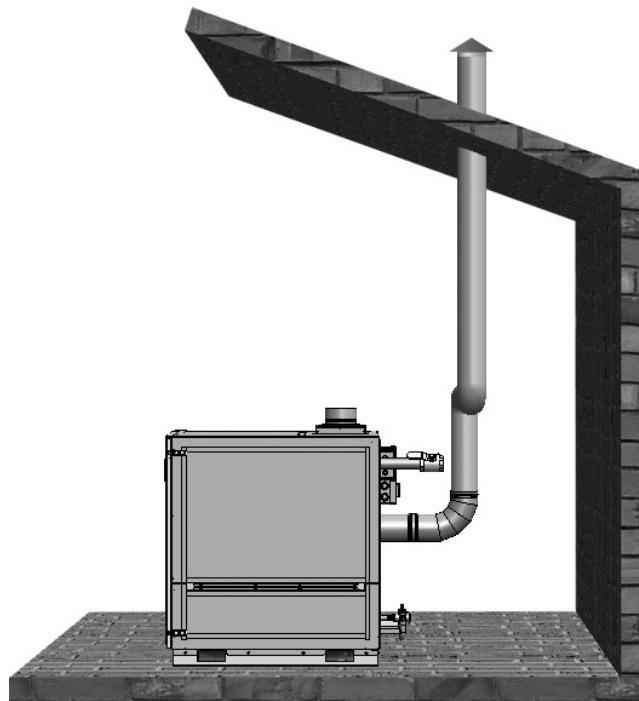
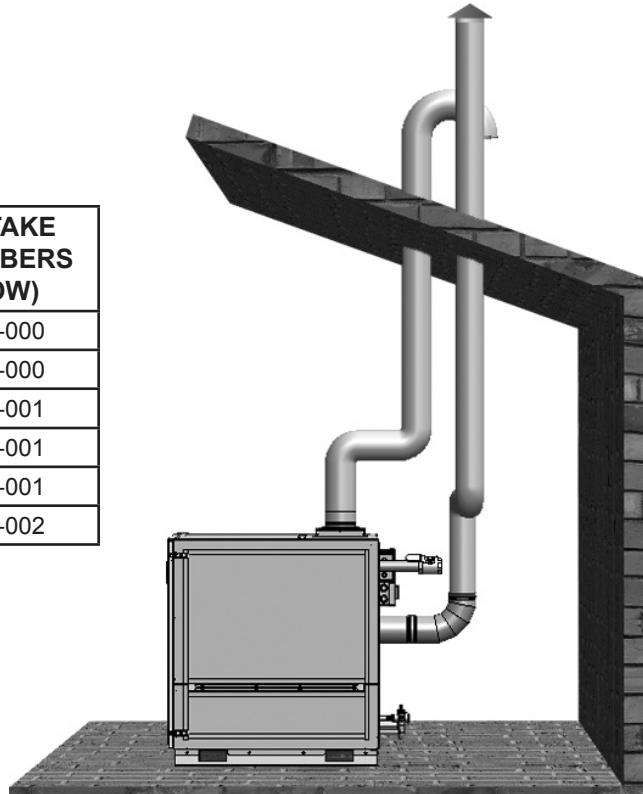
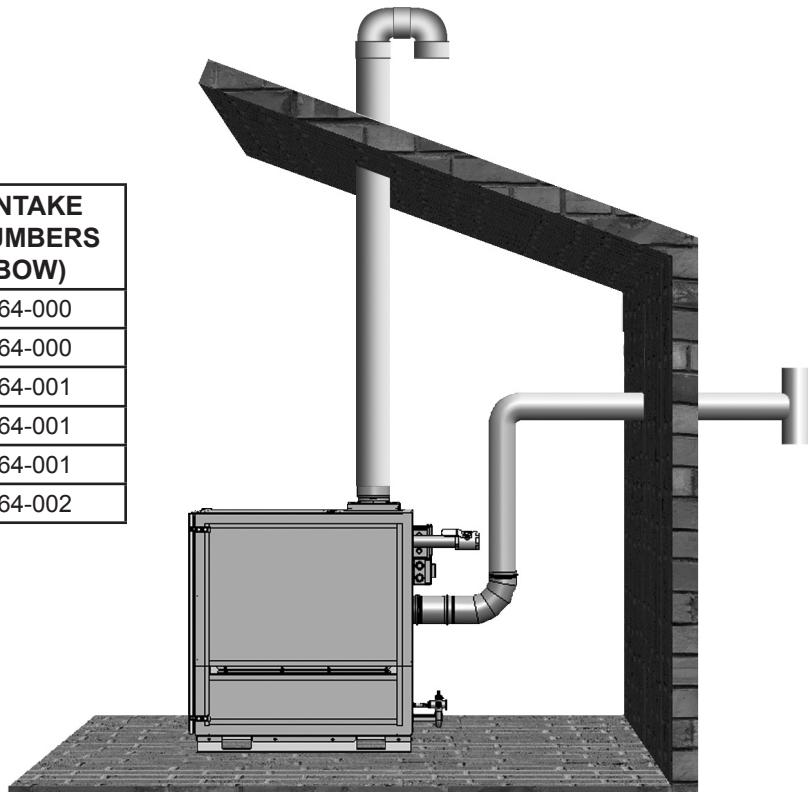

FIGURE 25. VERTICAL VENTING
FIGURE 28. DIRECT VENT VERTICAL
FIGURE 30. DIRECT VENT, HORIZONTAL VENT VERTICAL INTAKE
- Vertical Termination** - vertical vent termination through un-enclosed or enclosed areas with roof penetration, see Figure 25 on Page 28.
- Vertical Direct Vent** - using a vertical vent termination to exhaust flue products and PVC piping to bring combustion air to the boiler from outside, see Figure 28 on Page 29 and Figure 29 on Page 30.
1. The vent system must terminate at least 3 feet (1.0 m) and no more than 6 feet (2.0 m) above the roof line and no closer than 10 feet (3.0 m) from any wall or vertical structure. If the exhaust vent terminal is within 10 feet (3.0 m) of a wall or parapet, it must extend a minimum of 2 feet (610 mm) above the wall or parapet, see Figure 25 on Page 28 and Figure 28 on Page 29.
2. For direct vent installations, the total distance of the vent system from the boiler vent connector to the vertical vent termination should not exceed 100 equivalent feet (30.5 m). A maximum of three 90° elbows can be used. Minimum vertical vent is 7 equivalent feet (2.1 m) for direct vent installations. Standard minimum vertical vent length is 7 feet (2.1 m). See Figure 25, Figure 28 thru Figure 30 for differences between standard and direct vent installations.